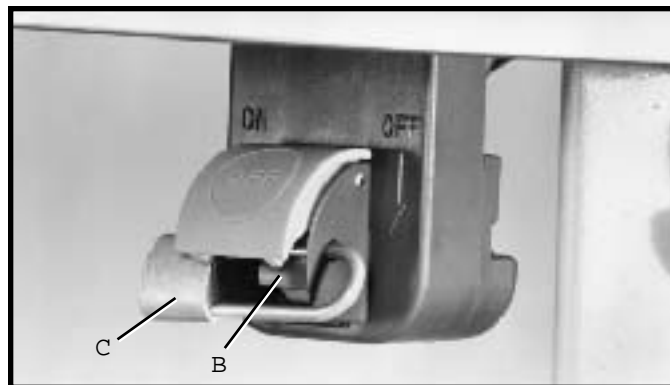

Fig. 78
We suggest that when the saw is not in use, the on/off switch trigger (B) Fig. 78, be locked in the OFF position using a padlock (C) through the two holes in the switch plate, as shown.